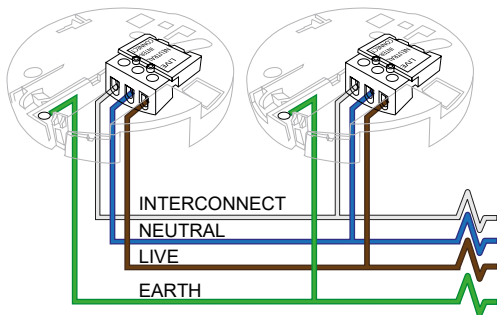

FIGURE 5 – WIRING & INTERCONNECT FACILITY
- Find and remove the key lock from the Mounting Base. Keep this for replacing after install. See **Figure 5**